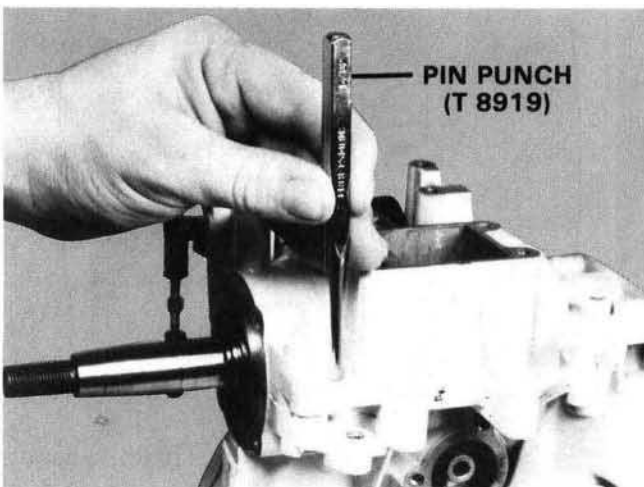

Figure 14. Removing Location Pins.
A. Drive out two locating pins using pin punch (special tool T8919). Figure 14.